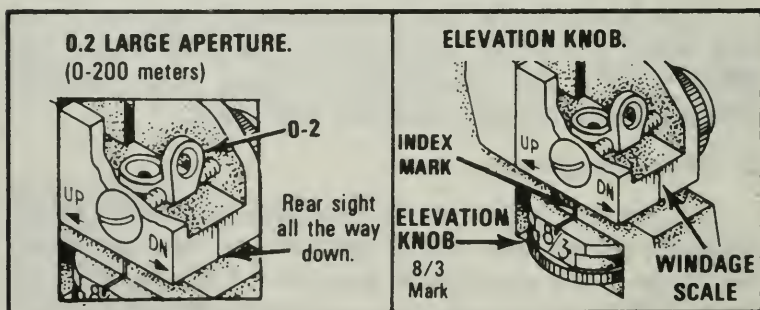

Figure 107. Rear sight.
(1) The 0-2 (large) aperture is used for short range (Figure 107). This aperture is used only when the rear sight is all the way down. The 8/3 (300-meter) mark on the elevation knob is aligned with the index mark on the left side of the receiver.
(2) To adjust elevation, turn the elevation knob until the desired range is indexed at the index mark on the left side of the sight (Figure 107).
(2) Rotate the elevation knob down until the range scale 8/3 (300-meter) mark is aligned with the mark on the left side of the receiver (Figure 107).
(3) Rotate the front sight post up or down as required until the base of the front sight post is flush with the top of the sight post well.